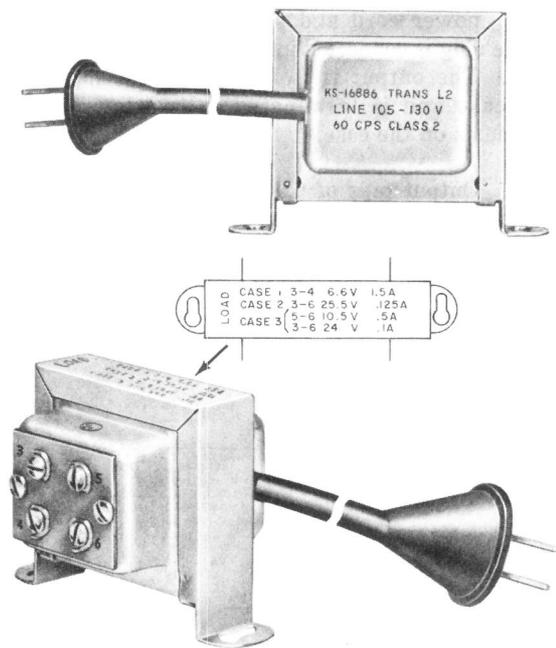

Fig. 9—KS-16886L2 Transformer
**8.01** The KS-16886L2 transformer (Fig. 9) is primarily intended as the centralized power supply for multiphone dial light installations and home interphone systems requiring approximately 6 volts. It is capable of handling up to ten dial light stations. Additional taps at 10.5, 24.0, and 25.5 volts are also provided for other possible uses. This transformer is self-protecting and has no fuses.